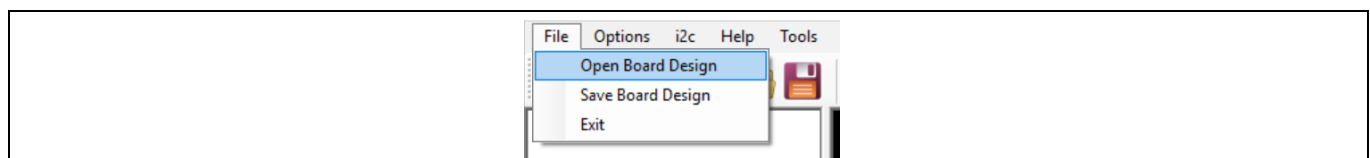
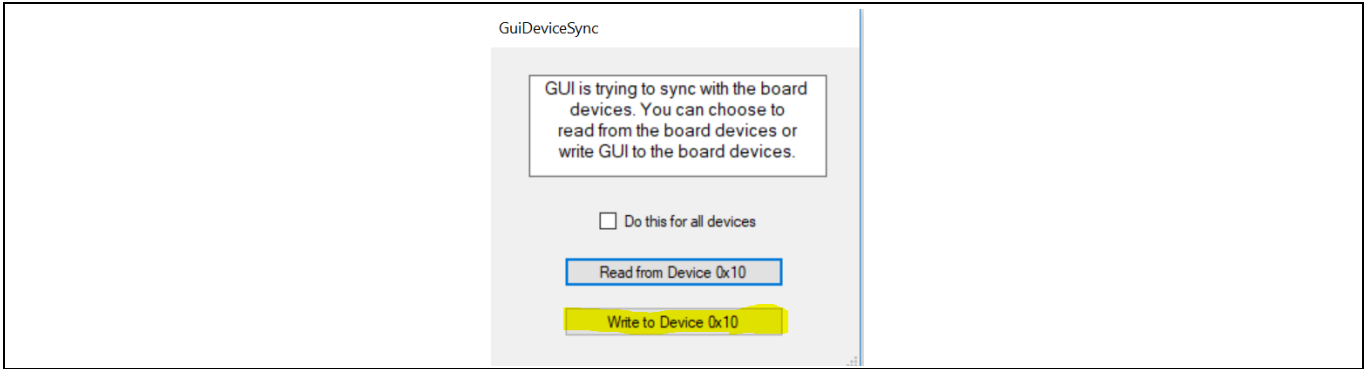

Figure 11 Open design file
Figure 12 Write to device operation
- To re-load the design file to the device use “Open Board Design” as shown in Figure 11 to open the “.pcd” file. The GUI will show a pop-up window (Figure 12). Click **Write to Device 0x10**. This will write the program into RAM of the IC.